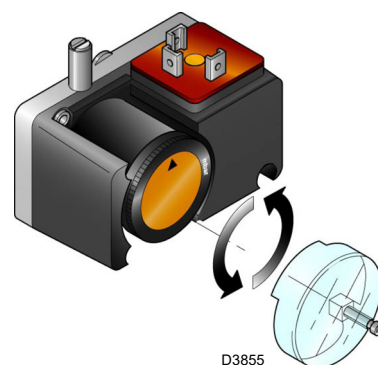

Fig. 34
- Adjust the minimum gas pressure switch (Fig. 34 at page 35) to the start of the scale.
Adjust the minimum gas pressure switch (Fig. 34) after having adjusted the burner, the gas valves and the gas train stabiliser. With the burner operating at maximum output: